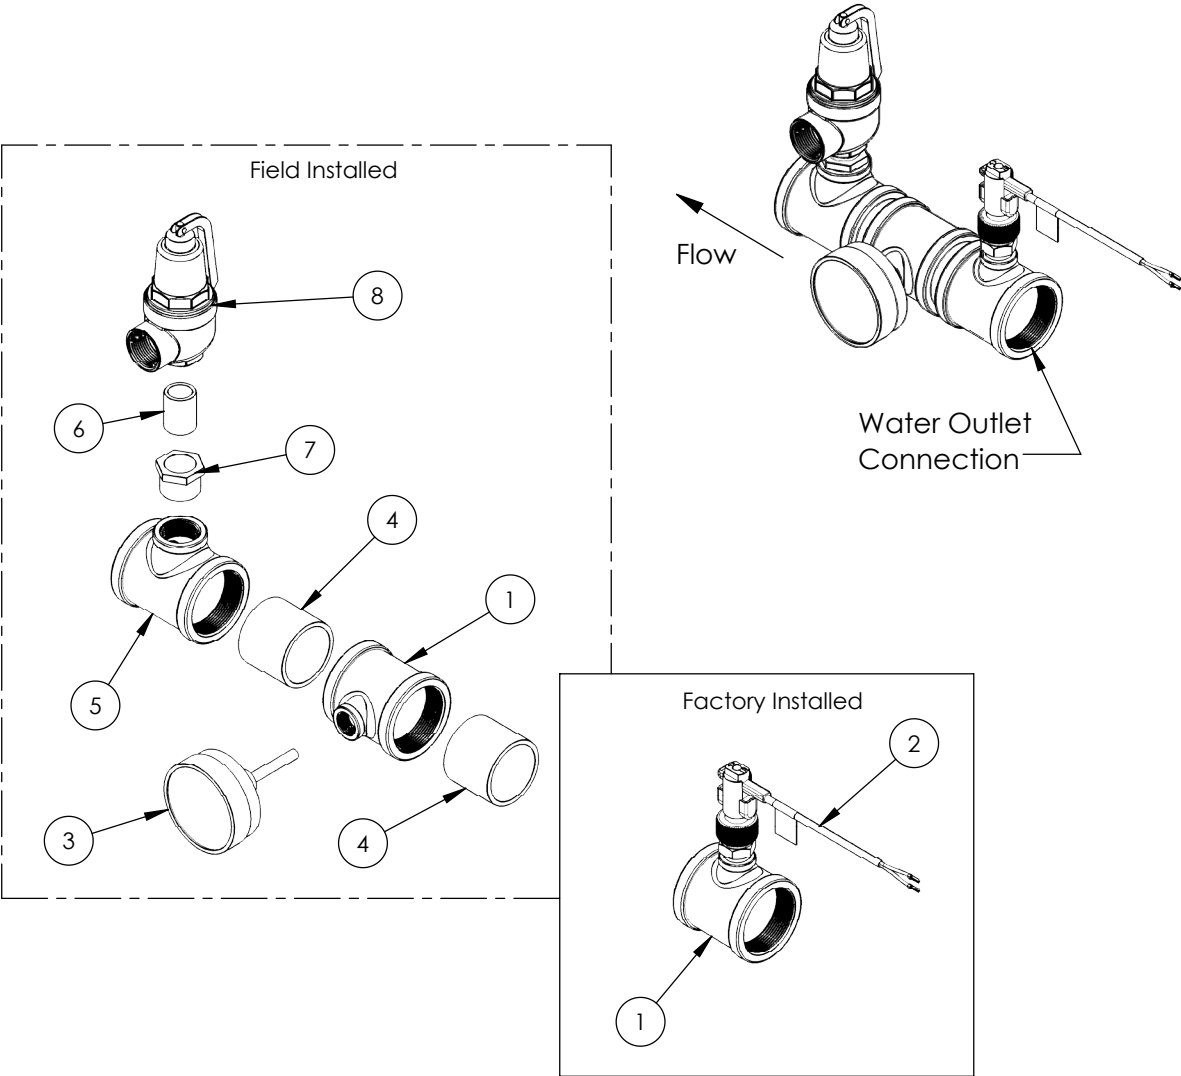

Figure 15: Relief Valve Package Assembly
- 1. The relief valve, T&P gauge, and required fittings ship loose with the appliance. These parts must be installed to the outlet as shown in Figure 15.